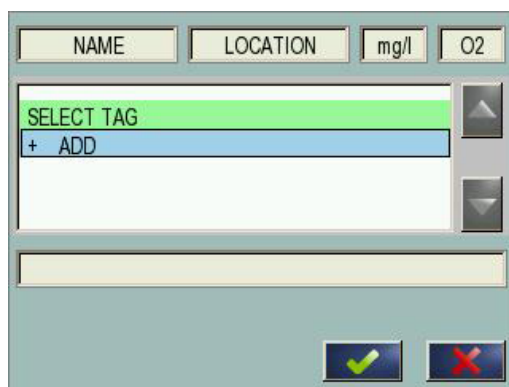

Figure 49 Main menu of the formula editor
2. The main menu of the formula editor is displayed (Figure 49). Tap on the text fields to edit the Name, Location, Unit, Parameter and Formula.